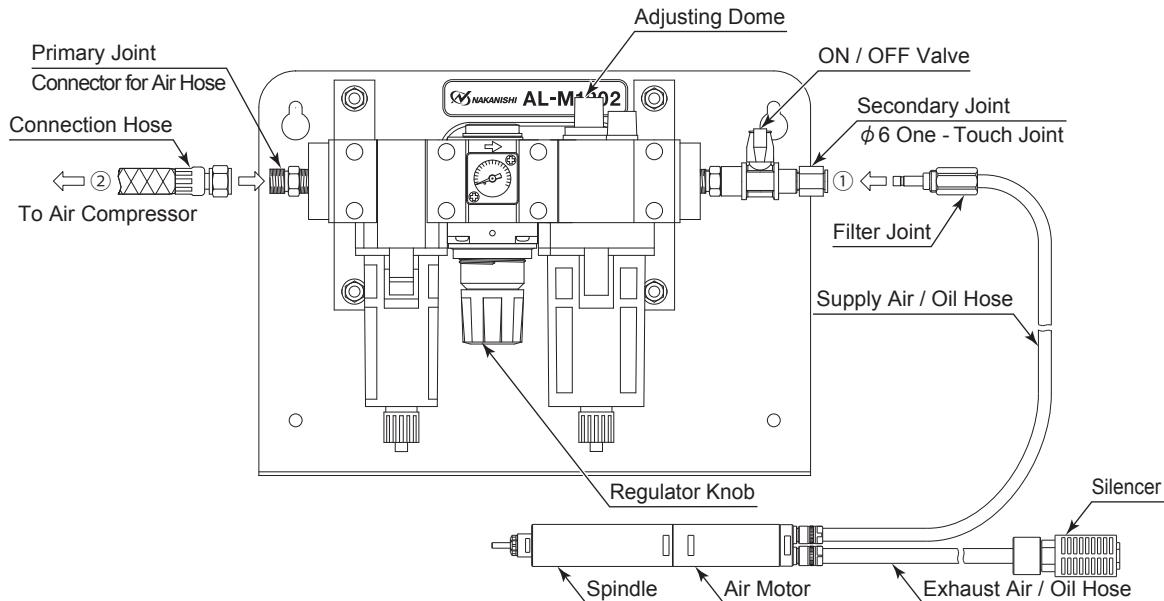

Fig. 7 Connection of Air Line Kit " AL - M1202 (Sold Separately) "
- ① Connect the Filter Joint of the supply air / oil hose to the Secondary Joint (φ6 One - Touch Joint) of the Air Line Kit (Fig. 7 ①).
- ② Fill Oil Reservoir through the Oil Filler Cap with recommended NAKANISHI Lubricating Oil (K-211 : Air Line Kit's Standard Accessories) to Upper Limit. Disconnect from air supply prior to opening Oil Filler Cap. Do not over or under fill.
- ③ Connect the connection hose (Air Line Kit's Standard Accessories) to the Primary Joint of the Air Line Kit and Compressor (Fig. 7 ②).
- ④ Supply air from the air compressor and turn the Regulator Knob to set air pressure between 0.3 - 0.5 Mpa (43.5 - 72.5psi).
- ⑤ Turn the ON / OFF Valve and rotate the Air Motor with recommended proper air pressure. Adjust the Oil Drip Rate to the recommended volume which is 1 to 3 drops / min.)(Commercially Air Line Kit is same Oil Drip Rate).
- ⑥ Be sure to adjusted to proper Oil Drip Rate before using the Air Motor.